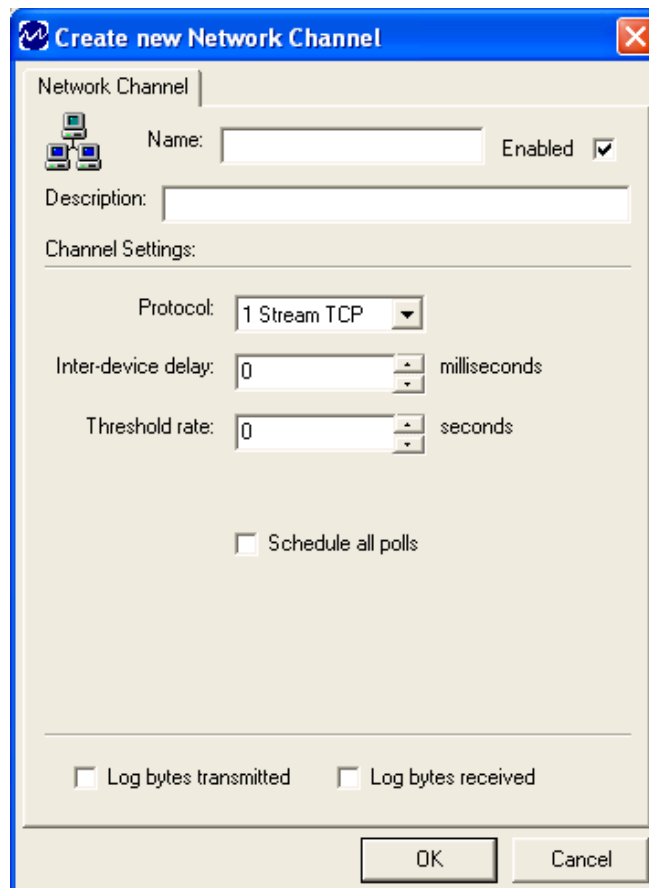

Figure 24 - Create New Network Channel Window
The **Create New Network Channel** window (Figure 24) displays the settings available for configuring a **Network Channel**. The settings include protocol, inter-device delay, and threshold rate.
5. The **Create New** window appears (Figure 24).